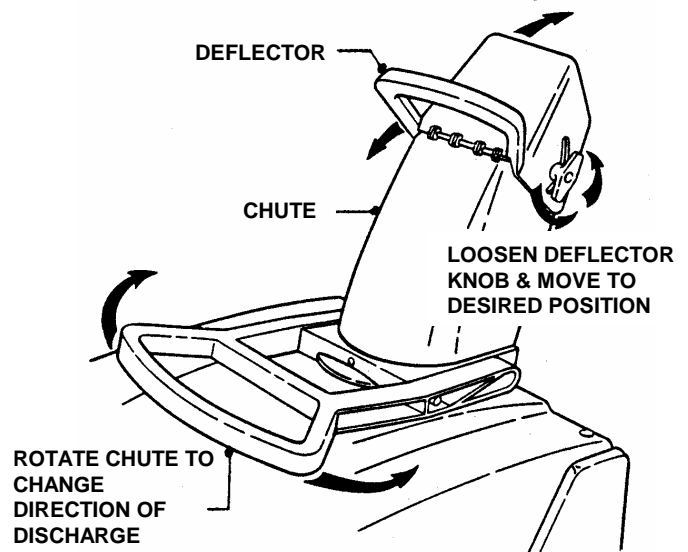

FIGURE 2.6
3. Rotate discharge chute in desired direction. See Figure 2.6.